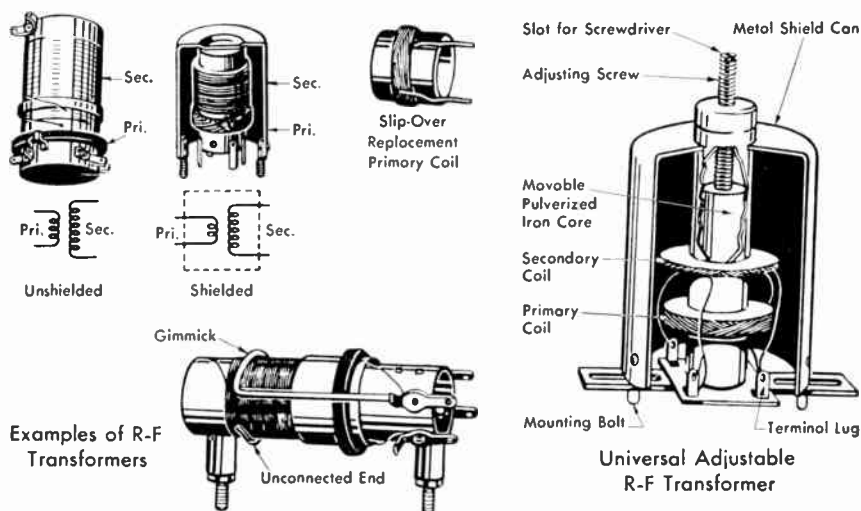

Fig. 7. Practical information on r-f transformers for a-m radio sets
Examples of shielded and unshielded r-f transformers for radio sets are shown in Fig. 7. The primary winding burns out most often. When this occurs, a slipover primary winding can be slipped over the burned-out winding and connected in its place, to make replacement of the entire transformer unnecessary. The slip-on coils are available in different diameters. Order the size next larger than the outside diameter over which the replacement coil must fit after the defective coil is cut away. Cut through the entire old primary with side-cutting pliers to speed removal.
**Gimmicks on R-F Transformers.** Occasionally you will find on a radio-receiver antenna transformer a short length of bare or insulated wire that is connected to a terminal at one end only, much as shown on one of the transformers in Fig. 7. This wire is called a *gimmick*. It provides a small value of capacitance between the primary and secondary windings, to make the performance of the radio set more nearly uniform for all stations in the broadcast band. As a rule, you will find gimmicks only in older and cheaper table-model sets. Do not worry about the ends being unconnected; just leave them alone.
**Ordering Universal Replacement R-F Transformers.** Since r-f transformers are used in tuned circuits that have a great effect on receiver performance, an exact-duplicate replacement ensures that the set will work right. Ordering from the factory or from a coil manufacturer takes a lot of your own time and delays the repair job at least a week, and this may not be justified for cheap sets. For these you can obtain universal antenna, oscillator, and r-f transformers from jobbers. These will replace broadcast-band transformers in most receivers. They sometimes have a screw-driver adjustment like that shown in Fig. 7, and come with installing and adjusting instructions.